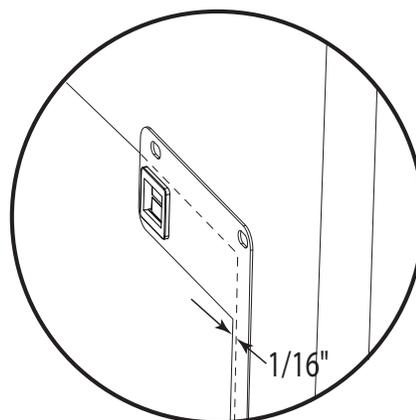

Fig. 09
7. Place the right and left mounting bracket supports by resting the bottom edges of the supports on the bottom of the cutout (Fig. 08). The long flange on the side supports should clear the side of the cutout by approximately  $1/16''$  (see Fig. 09). Install top screws into the cabinet face by first drilling  $1/8''$  pilot holes (see inserts 3 and 4).